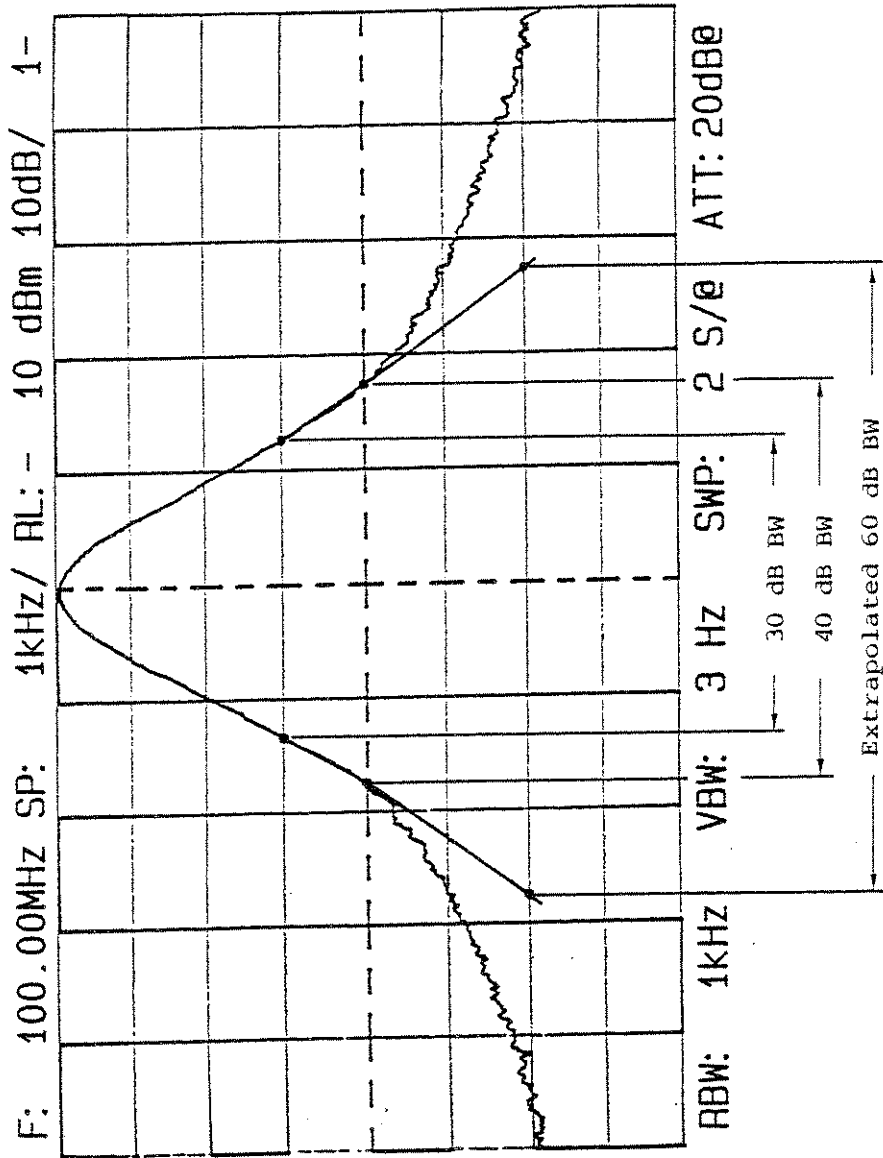

Fig. 8-11 60 dB Bandwidth of 1 kHz Resolution Bandwidth Sample Extrapolation on CRT Display
- 19 If RES BW is set to 1 kHz, the 60 dB bandwidth cannot be directly measured because of the local signal noise sidebands as shown in Fig. 8-11.
Connect these points with a straight line, and calculate the value corresponding to the 60 dB bandwidth, as shown in Fig. 8-11.